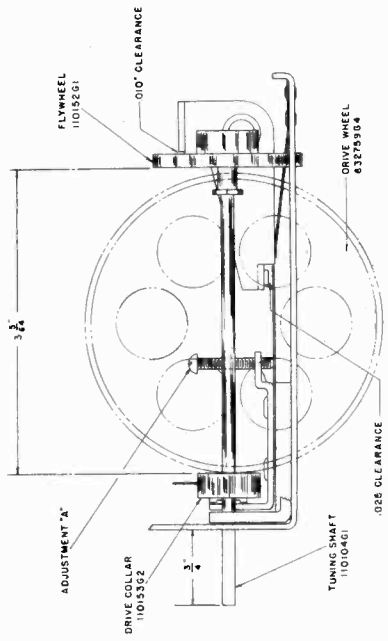
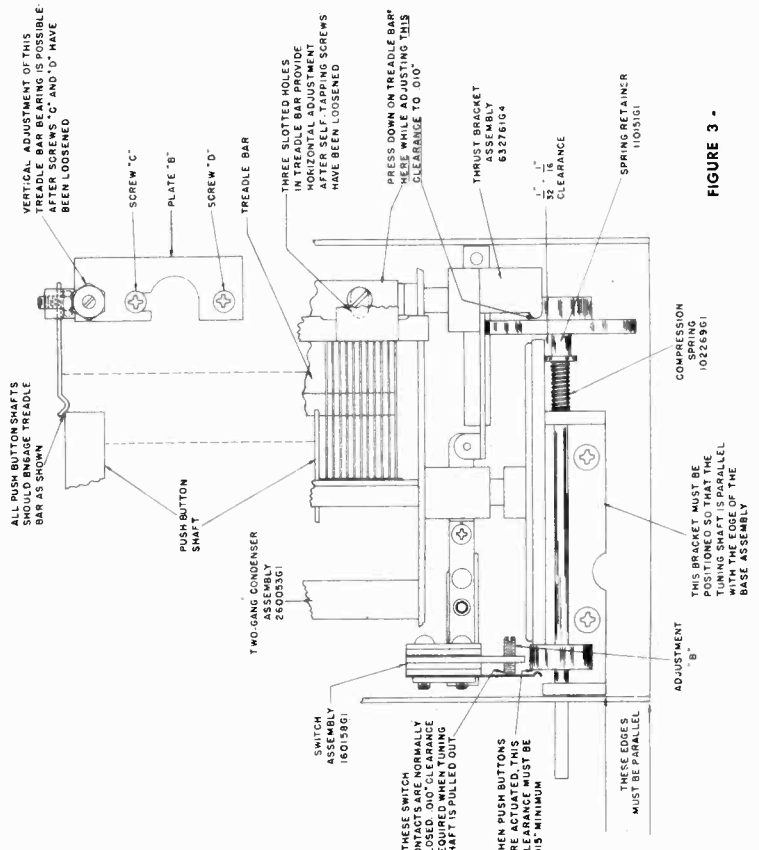

FIGURE 2
FIGURE 3
sure of the front surface of the Drive Collar, when the Tuning Shaft is pulled out. The function of this switch is to open the muting circuit when setting up the push buttons. As its contacts are wired in series with the large muting switch (contacts are shorted by pressing any push button), pulling out on the Tuning Shaft causes the small switch contacts to open the muting circuit so that a station can be heard while the push button is held in and tightened. On rare occasions it may be necessary to adjust the relation between the push button bars and the Treadle Bar. Such adjustment might be required if when pushing any of the push buttons, sufficient motion is not transmitted to the Treadle Bar to cause a disengagement between the Drive Collar and the Drive wheel. This can usually be accomplished by loosening the two screws designated "C" and "D" on Figure 3, and moving plate "B" in the direction required to correct this condition.
Whenever any of the mechanical parts in the condenser gang drive assembly require replacement due to rough handling or for any other reason, it is extremely important that clearances and adjustments shown on Figures 2 and 3 are effected; otherwise the tuning mechanism will be sluggish or it may slip during operation.
1. Assemble the Tuning Shaft, Drive Collar, Compression Spring, Spring Retainer and Flywheel in the manner shown on Figure 3. Note that the Tuning Shaft must extend 3/4" from the front of the assembly and that the spacing between the rear of the Drive Collar and the front of the Flywheel must be 3.5/64". Any excess length in the Tuning Shaft may extend beyond the rear of the Flywheel. See Figure 2.
2. The distance between the rubber-tired Drive Wheel and the smaller diameter section of the Spring Retainer must be 1/32" to 1/16" (Figure 3). This adjustment is effected by loosening the two No. 6 Allen set screws in the Drive Wheel hub and sliding the wheel on its shaft until the required clearance is obtained. When the adjustment is completed, tighten the two screws in the hub of the Drive Wheel.
3. While pressing down on the Treadle Bar at the location shown on Figure 3, adjust the Thrust Bracket until the clearance between the rear of the Flywheel and the projection on the Thrust Bracket is .010" as shown on the diagram. To make this adjustment, loosen the two No. 6 Allen set screws (use No. 6 Allen Wrench—MagnaVox Part No. 800044G2) in the hub of Thrust Bracket and rotate the bracket until the specified clearance is obtained when the push buttons are NOT actuated. Tighten the two screws securely when the adjustment is completed. Press each push button and check that the Drive Collar is pushed away from the rubber-tired Drive Wheel.
4. Next, adjust the clearance in the muting switch contacts by turning the Phillips-head screw designated Adjustment "A" on Figure 2, until the specified clearance of .025" is obtained (when the push buttons are NOT actuated).